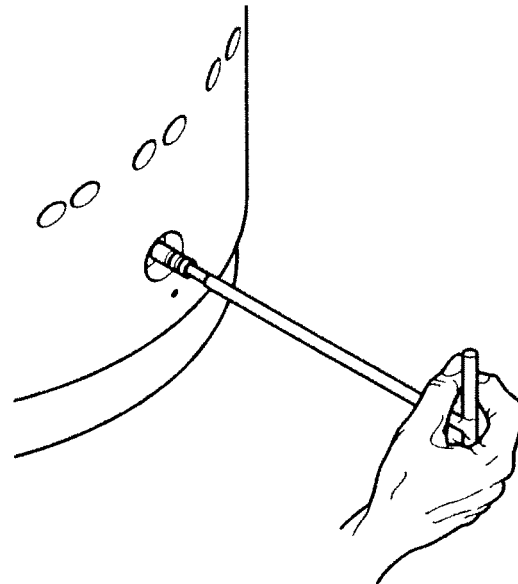

Figure 6.20
- The small ram will probably get out with the valve body; if this not, extract it (Fig. 6.20) by pulling spanner (09.040.0) after screwing its threaded end on small ram.